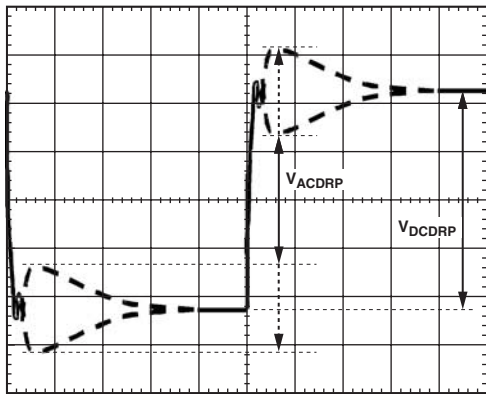

Figure 8. AC Loadline Waveform
15. You will see a waveform that looks something like Figure 8. Use the horizontal cursors to measure  $V_{ACDRP}$  and  $V_{DCDRP}$  as shown. **DO NOT MEASURE THE UNDERSHOOT OR OVERSHOOT THAT HAPPENS IMMEDIATELY AFTER THE STEP.**